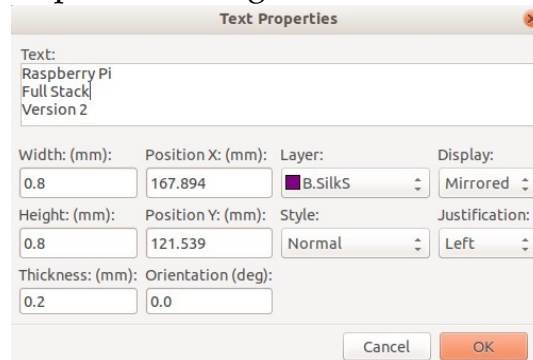

Figure 18.32: Reduce the size of the text to make it fit in small areas.
1. The text 'Button: GPIO14, LED: GPIO4' (Figure 18.32)